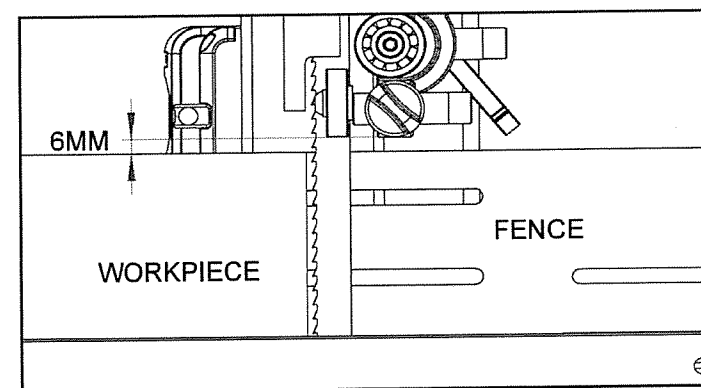
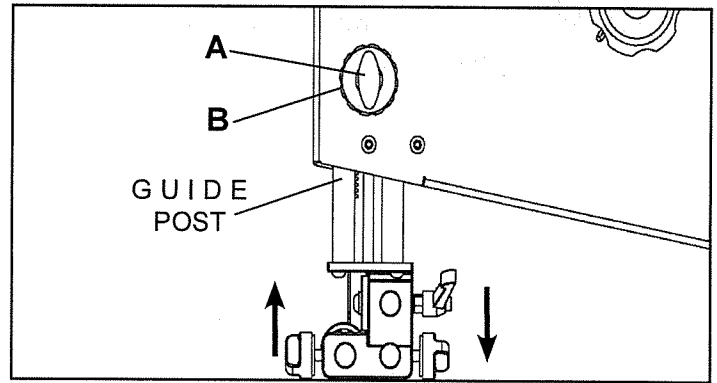

FIGURE 20
FIGURE 21
NOTE: Before cutting, set the upper guide bearings approximately $1/4$ " (6mm) above the top surface of the workpiece. This will give the best blade control. FIG. 20.
1. Loosen the Guidepost Lock Knob (#13E, FIG. 21, A) and turn the Guidepost Handle (#10E, FIG. 21, B) to raise or lower the guide post/upper blade guide assembly to the desired height above the table or workpiece. FIG. 20 & 21.
2. When the guide bearings are in proper position, Guidepost Lock Knob (#13E, FIG. 21, A) loosened in the previous step.